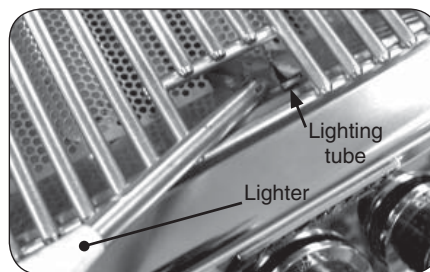

Fig. 11-2 - Manual lighting
2. Insert either a burning long-barrel butane lighter or a burning long-stem match through the cooking grid opening to the top of the lighting tube. (Fig. 11-2). For backburners, hold the flame against the perforated material of the backburner.
4. If the burner does not light, **immediately depress the knob and turn the valve to OFF**. **WAIT FIVE (5) MINUTES** before repeating steps 2 through 4 of the MANUAL LIGHTING instructions.